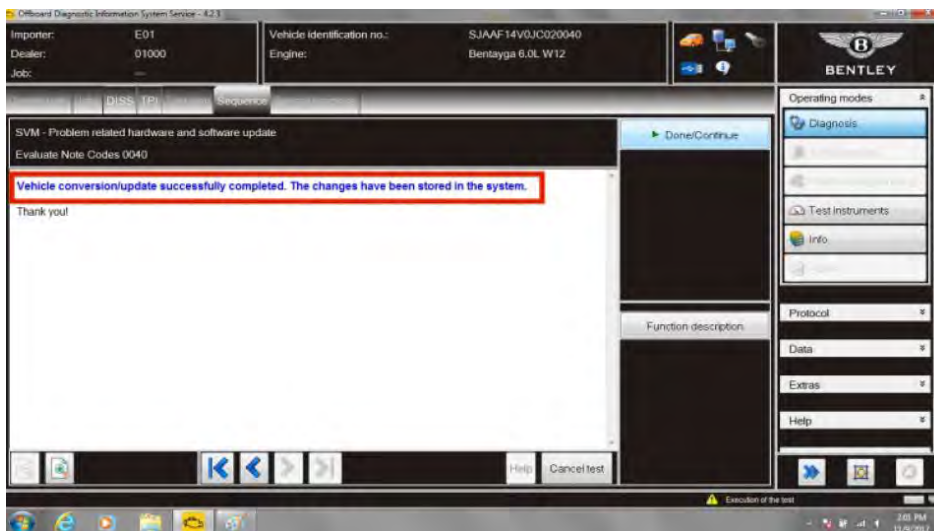

Figure 6
12. Once the update program has completed for all four control units, figure 6, follow the screen prompts to perform the automatic SVM and complete the update